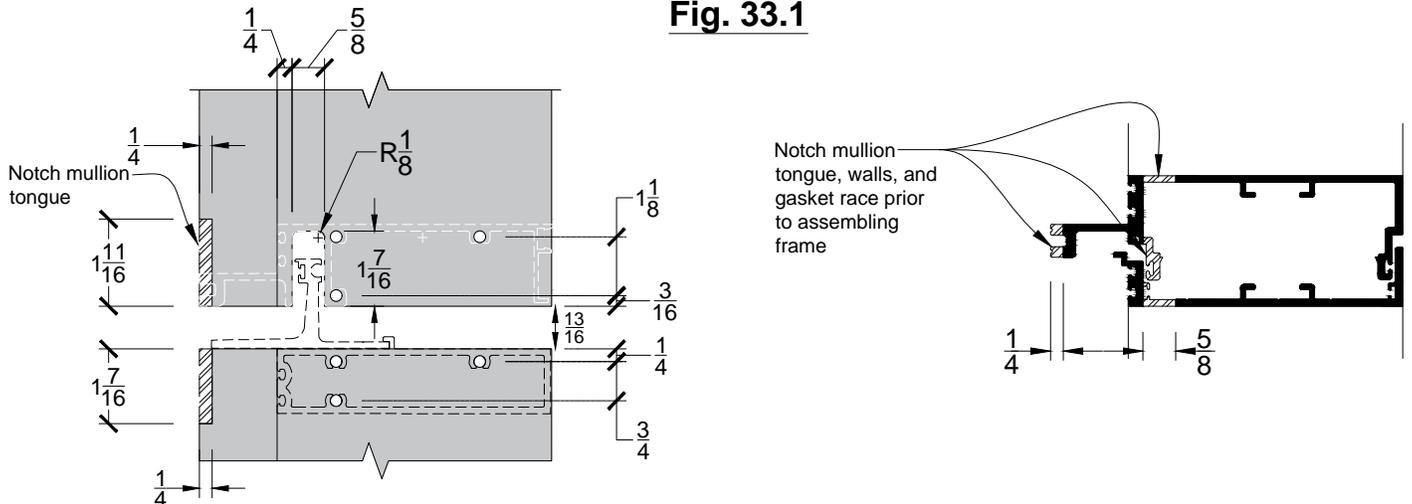

Fig. 33.2
- B. At an expansion joint using E4200 the top mullion needs to be notched to fit over the expansion plate. See Fig. 33.2 for notching dimensions.